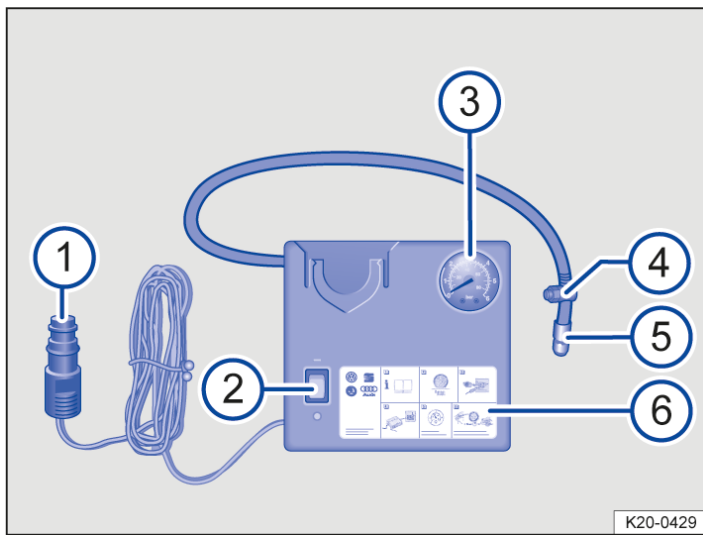

Fig. 2 Illustration: compressor from the breakdown set.
- Screw the tyre filler hose → Fig. 2 ⑤ of the air compressor tightly onto the tyre valve.
- Check that the bleed screw → Fig. 2 ④ is closed.
- Insert the 12-volt plug → Fig. 2 ① into one of the vehicle's 12-volt sockets (→ Sockets).
- Use the ON/OFF switch → Fig. 2 ② to switch on the air compressor.